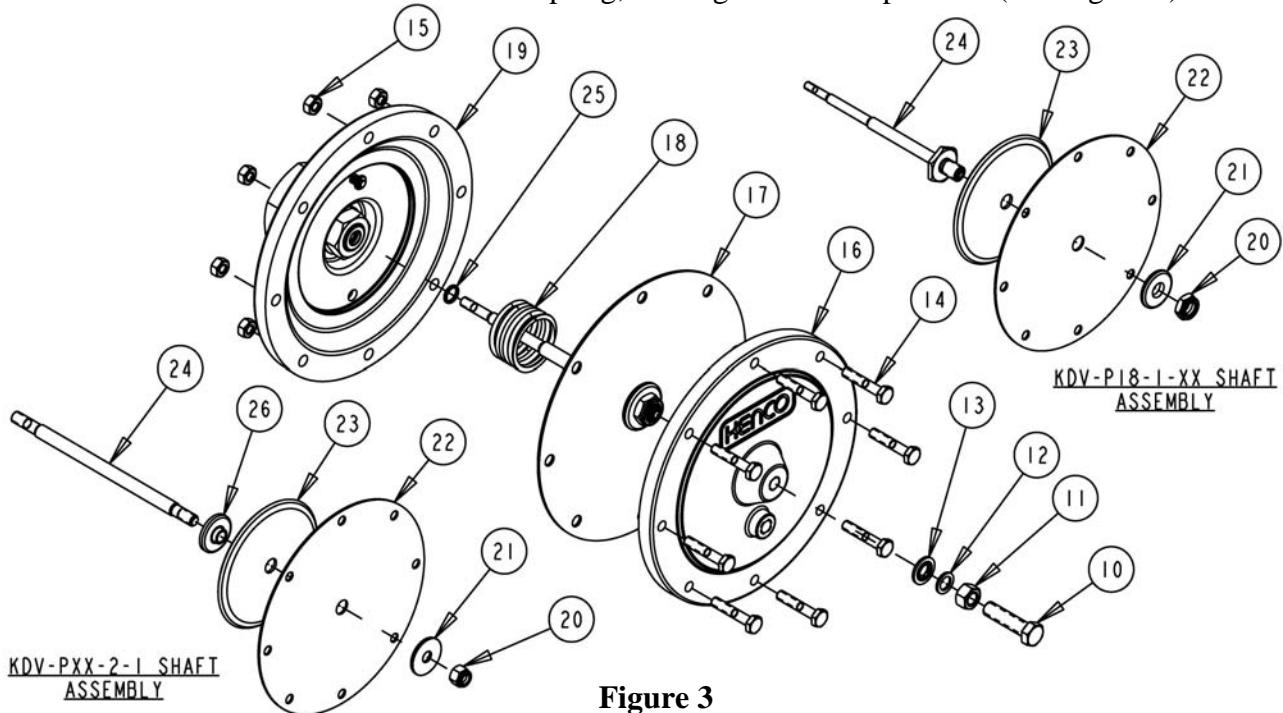

**Figure 2**
6. Loosen the jam nut (#11) and spin it all the way to the top of the maintenance bolt (#10). (See Figure 2)
9. With the locknut removed, remove the washer (#2), o-ring (3), trim plug (#4), crush washer (#5) and trim seat (#6). Also remove the o-ring (#8) from the spud (#9) under the union nut. (Note: if fluid was leaking from weep hole, then replace packing (#26)).